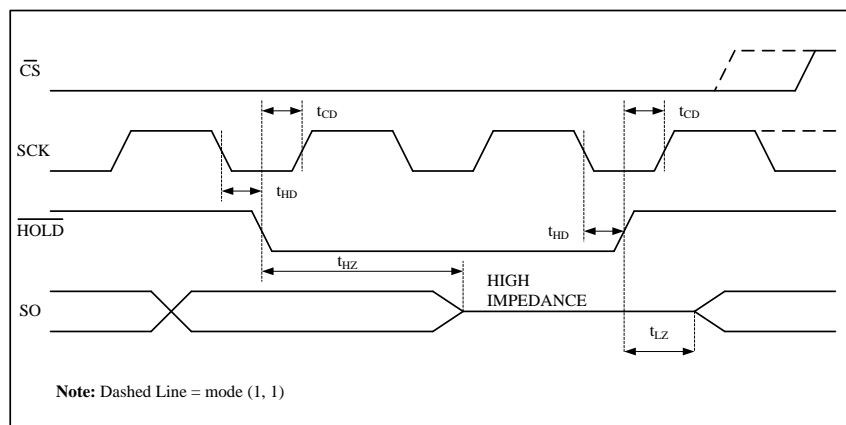

Figure 10
The \overline{HOLD} input can be used to pause communication between host and BL25CM2A. To pause, \overline{HOLD} must be taken low while SCK is low (Figure 10). During the hold condition the device must remain selected (\overline{CS} low). During the pause, the data output pin (SO) is tri-stated (high impedance) and SI transitions are ignored. To resume communication, \overline{HOLD} must be taken high while SCK is low.